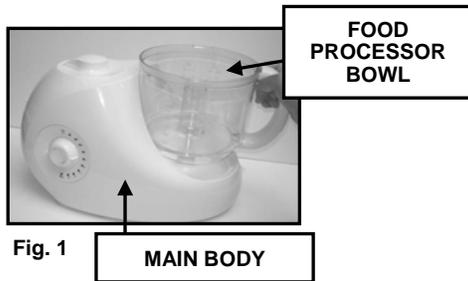
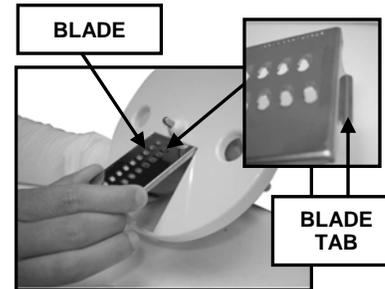

Fig. 1
Fig. 5
- Place the food processor bowl securely on the main body. (Fig. 1)
- Select the desired blade. There are five (5) different blades to choose from:
- To attach the blade to the blade holder, take the blade holder in one hand and insert the blade tab first into the opening. (Fig. 5)